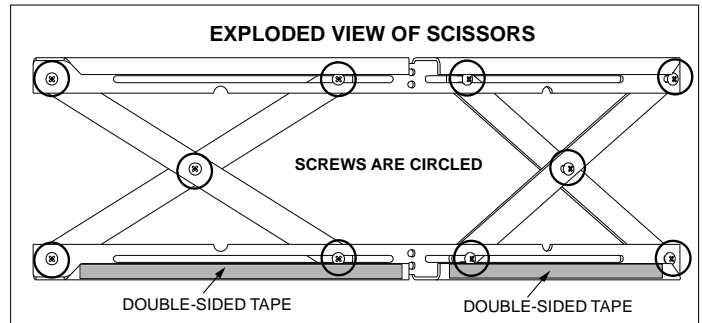

Figure 32.1
1. The 10 screws on each set of scissors will already be loose when shipped. **Figure 32.1.**